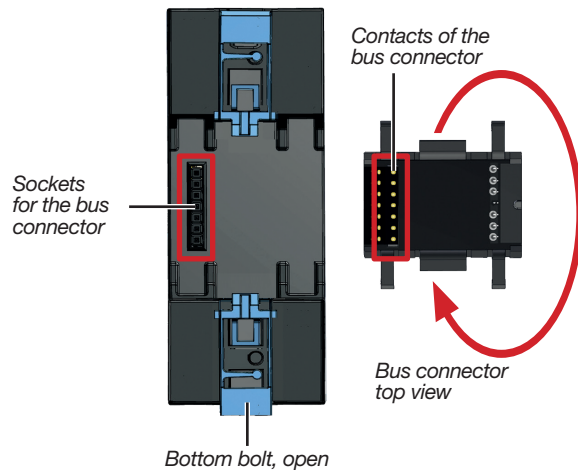

Fig. 1 - Bus connector installation: Rear of meter and front of busconnector
1. Check the installation of the bus connector (included in delivery, pre-assembled) on the back of your device. If not already done, plug the contacts of the bus connector (JanBus interface) into the sockets on the back of the meter (see Figures 1 - 3 on the right).